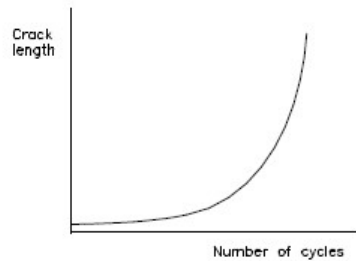

Figure 1.25 Crack growth with cycles of applied stress
- Steps c to f are repeated. Hence a graph of crack length v. cycles or time may be plotted, see Figure 1.25.